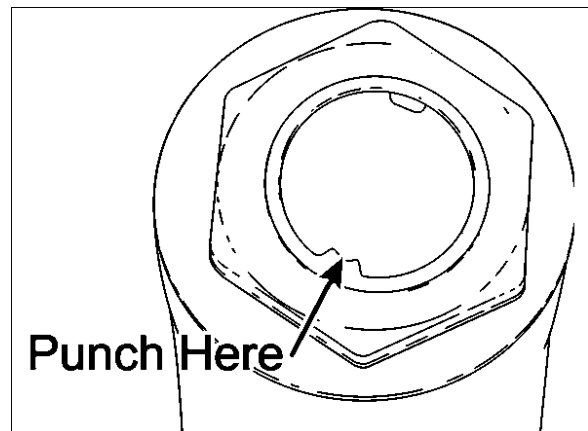

FIGURE 5: FIXING NUT PUNCH MARK
- Stake the nut on the shaft using a punch mark into the groove (Refer to figure 5).